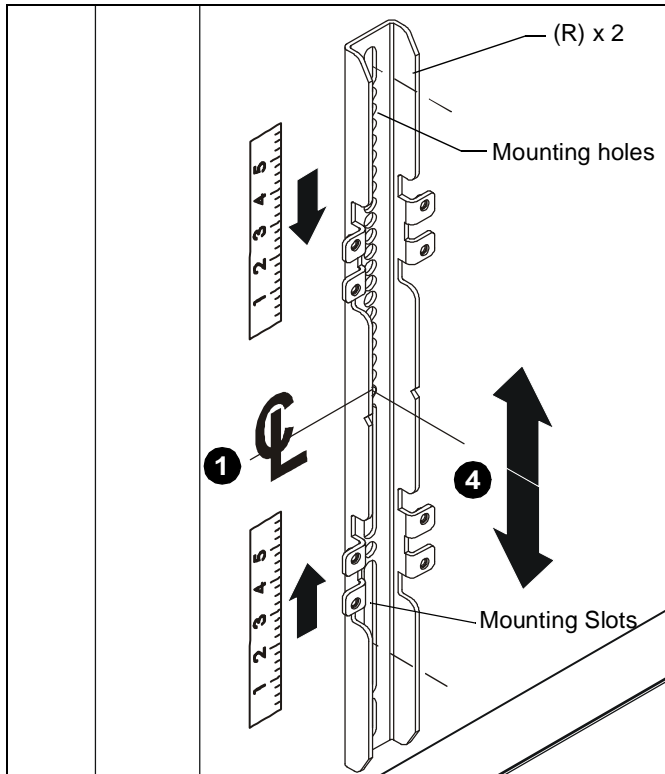
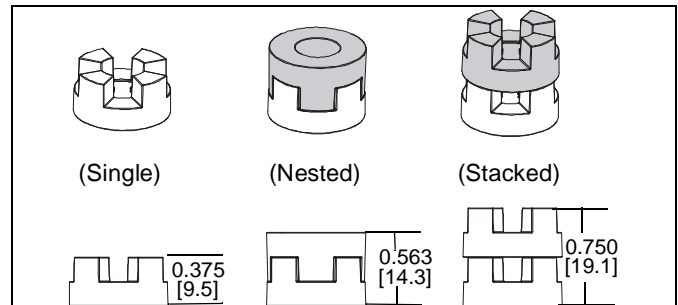
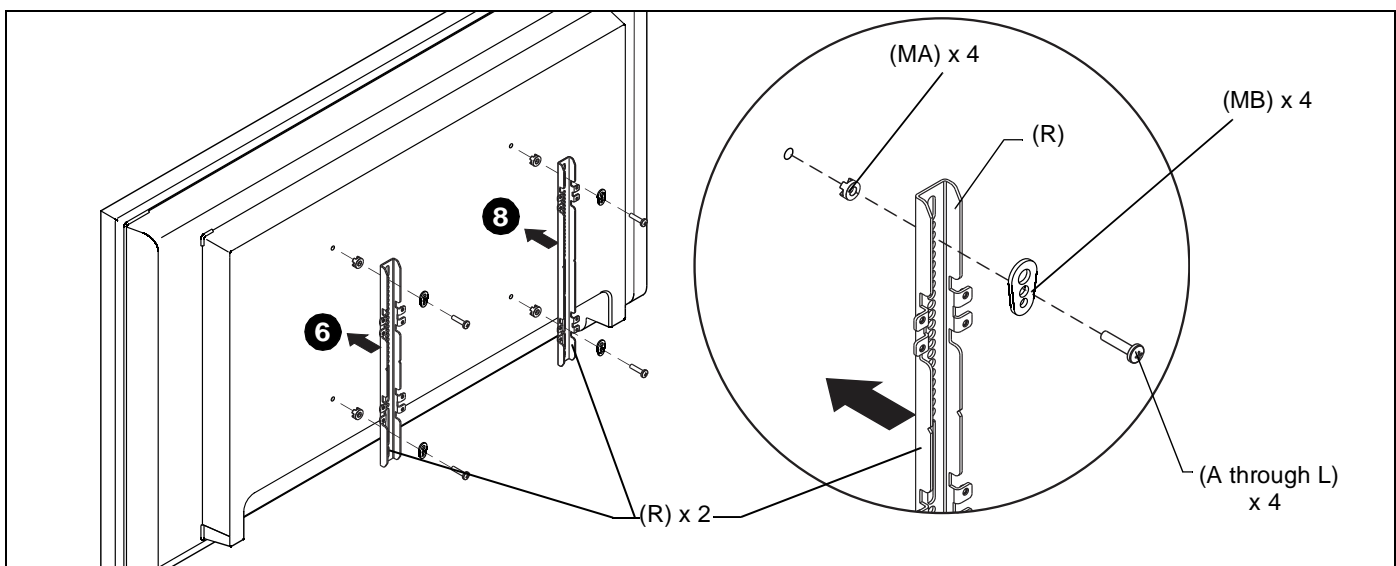

Figure 1
Figure 2
Figure 3
1. Determine and mark the vertical center position between the Left side Upper and Lower mounting holes in display. (See Figure 1)
2. Determine and mark the vertical center position between the Right side Upper and Lower mounting holes in display. (See Figure 1)
3. Orient vertical mounting bracket (R) so that mounting holes are on top and mounting slots are on bottom. (See Figure 1)
4. Align mounting holes in vertical mounting bracket (R) with upper and lower mounting holes in display.
5. Adjust vertical mounting bracket (R) position until mark made in Step 1 aligns with center mark in vertical mounting bracket (R).
6. Select correct screws, nesting spacers (if necessary) and universal washers (if required) from the hardware bag (A-M) and attach brackets to back of screen. (See Figure 3)
**IMPORTANT ! :** The M8 screws do **NOT** require a washer. Use the universal washer (MB) only with M4, M5 and M6 screws.
**NOTE:** The nesting spacers (MA) may be used separately, or put two together in different configurations to create different size spacers. (See Figure 2)
7. If the display has a recessed mounting surface, protrusions or a power box, a spacer and longer mounting hardware must be placed between the display and vertical mounting bracket (R). (See Figure 3)